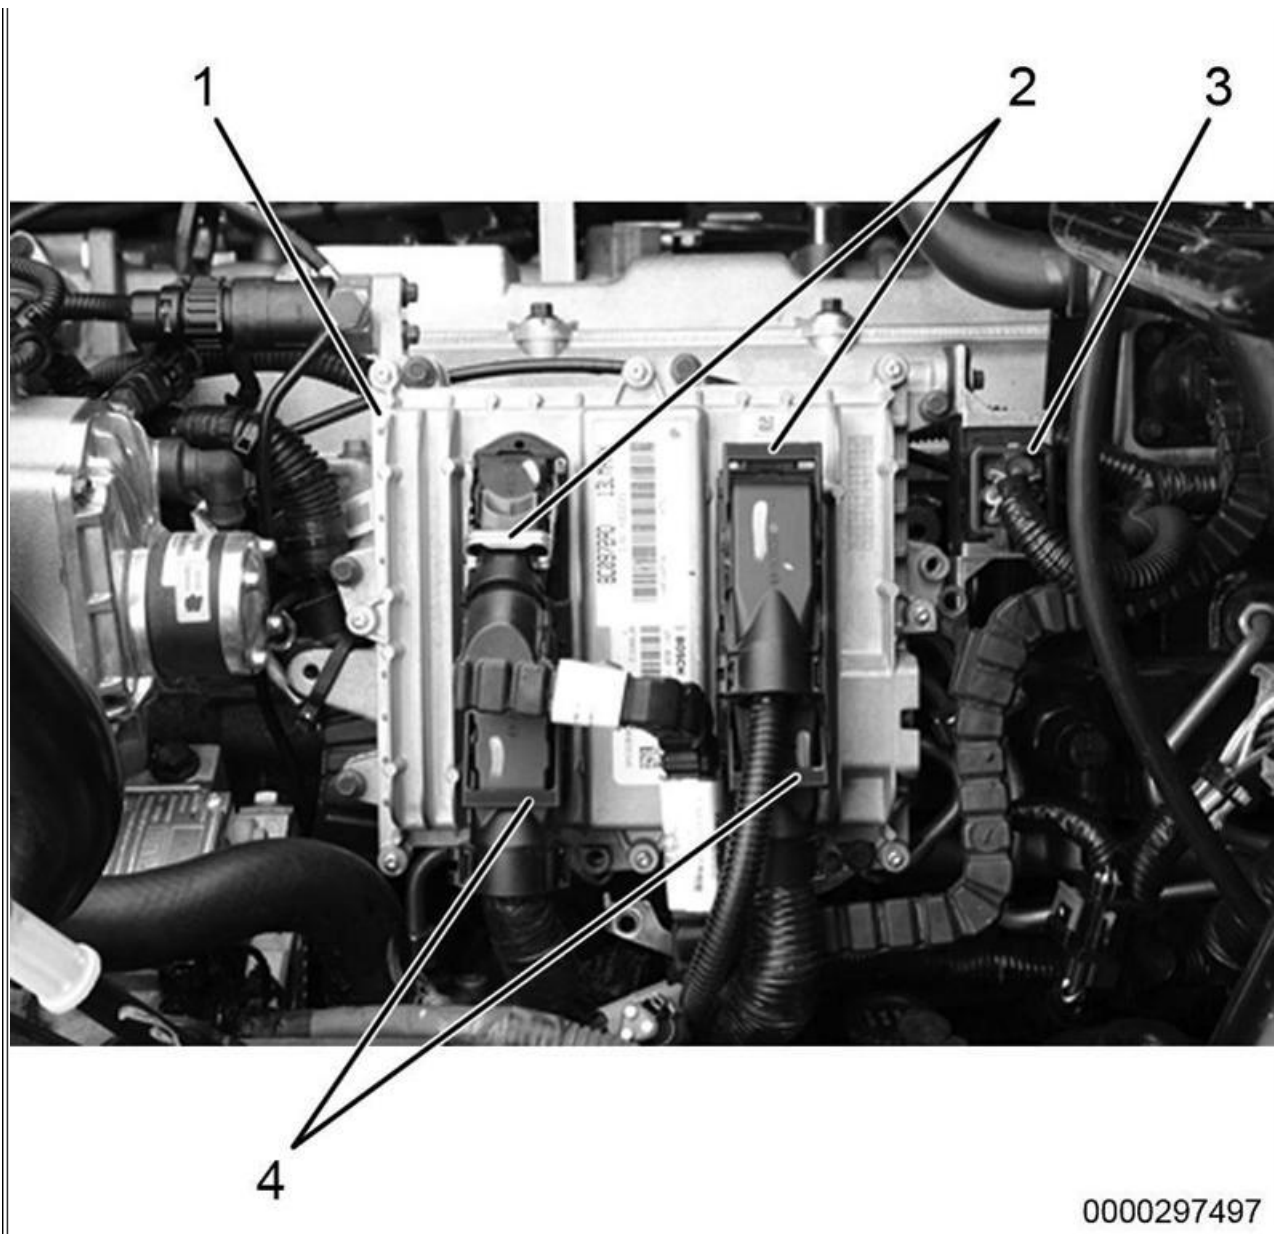

Figure 22: Electronic Control Module (ECM) Connectors
59. Connect cold start relay connector (Figure 22, Item 3) next to ECM.
60. Connect ECM connectors and engage locks (Figure 22, Items 2 and 4).